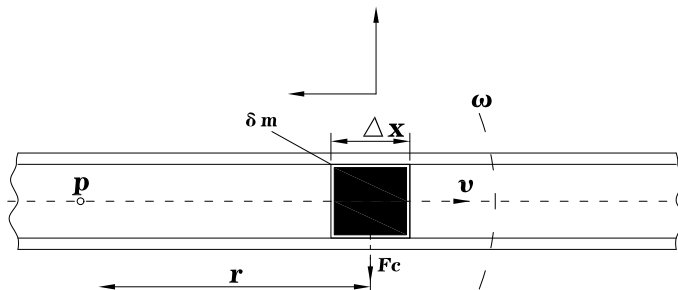

Fig.1 Principle of mass flow measurement
If a pipe is rotated around a point (P) while liquid is flowing through it (toward or away from the center of rotation), that fluid will generate an inertial force, with reference to Fig.1:
magnitude is equal to $F_c = 2\omega u \delta_m$. In Fig.1 the fluid